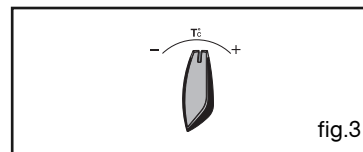

fig.3
• **Multi-purpose 45 mm dish (fig.3)**
Adjust the time setting using the + or - buttons (fig.3).
You can also adjust the temperature by moving the temperature selection knob to + or- (fig.3)
Example: 30 min cooking (fig.3).
- 0:00 and the cooking time flash (fig.3).